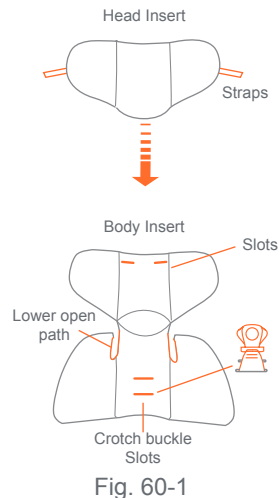
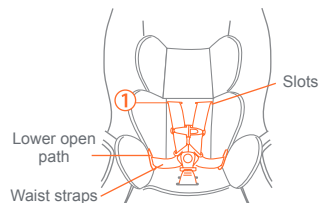

Fig. 60-1
Fig. 60-2
- 1- **Body and head insert:** **ONLY** use this insert set with children who weigh between 4-18 lbs. Use is not mandatory. Place Body Insert into seat and thread the crotch buckle accordingly (Fig. 60-1).
- 2- Place the waist straps through the Lower open path of the body insert (Fig. 60-1) and (Fig. 60-2).
- 3- If using harness level 1 thread the shoulder straps through slots 1 on the insert (Fig. 60-2).